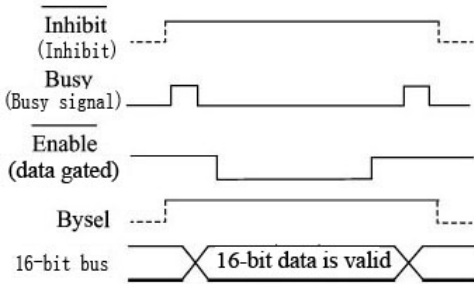
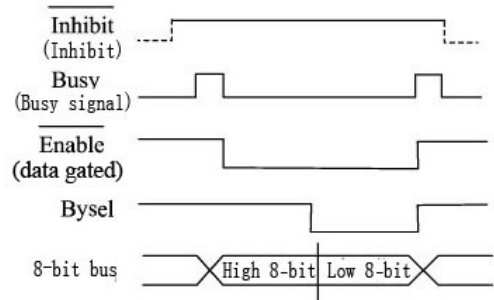

Fig.6 Time sequence diagram for 16-bit bus transfer
Fig.7 Time sequence diagram for 8-bit bus transfer
In asynchronous reading mode,  $\overline{\text{Inhibit}}$  is set to logic “1” or empty, whether the internal loop is always in the stable state or whether the output data is valid shall be determined through the status of busy signal **Busy**. When Busy signal is at high level, it indicates the data is being converted, and the data at this time is unstable and invalid; when Busy signal is at low level, it indicates the data conversion has been completed, and the data at this time is stable and valid. Once high level occurs in Busy during reading, the reading at this time is invalid. In asynchronous reading mode, the Busy output is pulse train of TTL level, its width depends on its rotational speed, there are also two use methods of the bus, i.e. 8-bit and 16-bit, the data reading during effective data output is also controlled by  $\overline{\text{Enable}}$ , please refer to the time sequence diagram for data transfer (Fig. 6 and Fig. 7).
6. MTBF curve (Fig. 7)